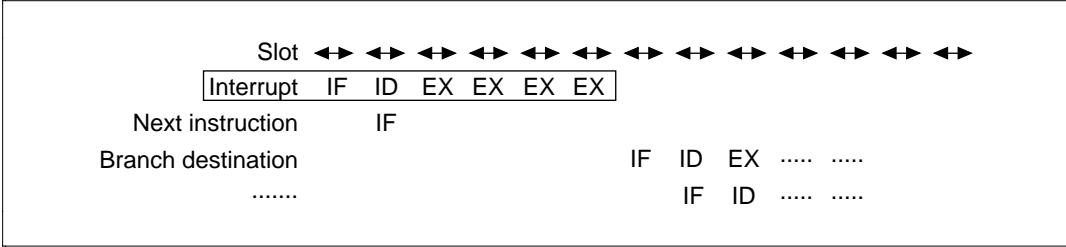

Figure 10-65 Address Error Exception Processing Pipeline
The address error is received during the ID stage of the instruction and everything after the ID stage is replaced by the address error exception processing sequence. The pipeline has six stages: IF, ID, EX, EX, EX, and EX (figure 10-65). Address error exception processing is not a delayed branch. In address error exception processing, an overrun fetch (IF) occurs. In branch destination instructions, the IF starts from the slot following the final EX in the address error exception processing.